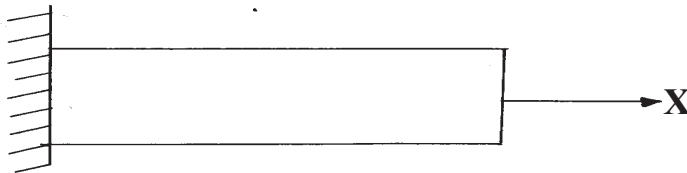

Figure 7.1
- b)** For bar element shown in figure 7.1 with length $L=2.5$ m, $E=210$ GPa, $\rho = 7850$ kg/m³. Determine the first two natural frequencies by using lumped mass Matrix. Consider two elements. [8]